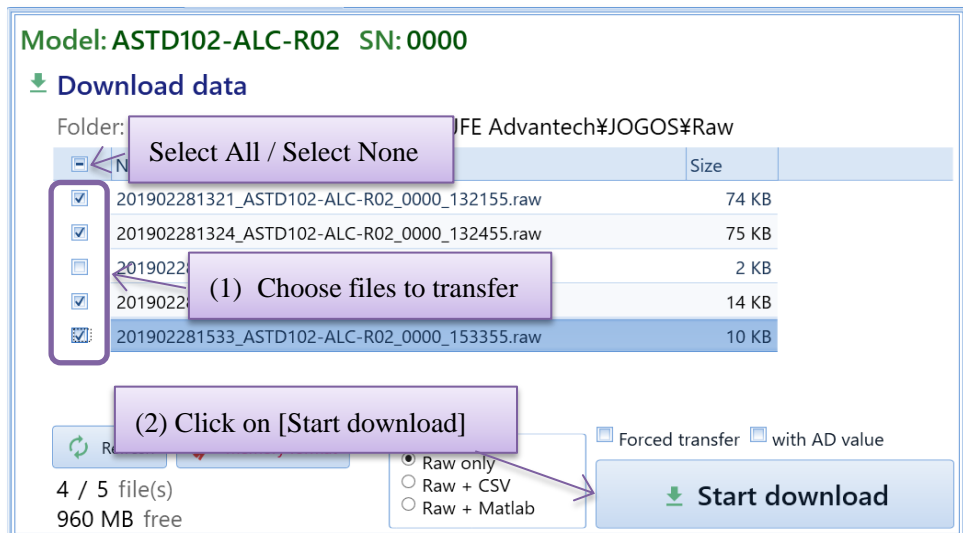

Figure 6.23 Choosing files to transfer
- (2) Click on [Start download] button. (Figure 6.23)